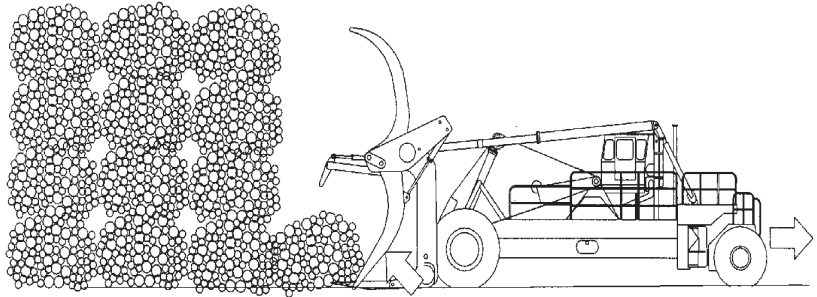

Figure 5-21
2. To place the bundle, set the bundle in position, raise the auxiliary hold-down arms and push forward with the kickoff arms while backing up. The bundle will slide off of the tines (See Figure 5-21).